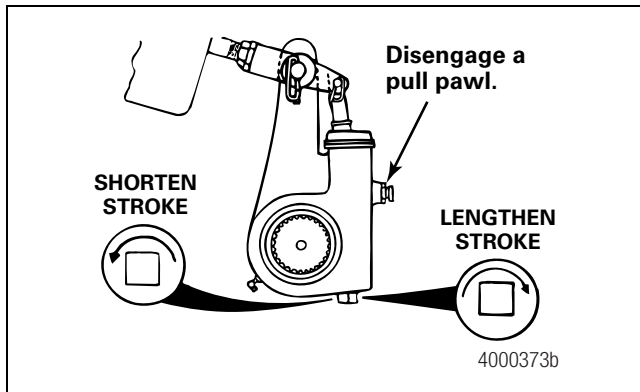

Figure 14
- **If the free stroke measurement is not within specification:** Turn the adjusting nut 1/8 turn in the direction shown in Figure 14 and check the free stroke again. Continue to measure and adjust the stroke until the measurement is within specification.